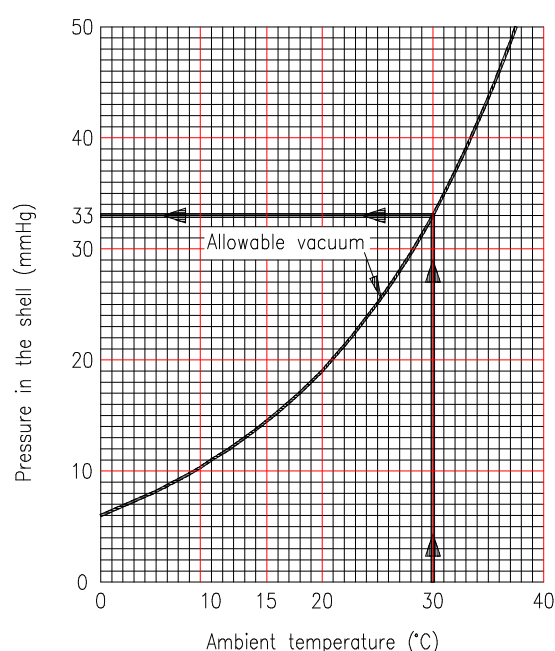

Fig.4-1
- ① The vacuum pressure has to be lower than the allowable vacuum value.
- ② As the pressure in the Machine is variable owing to the ambient temp., evaluate the measured pressure by using the curve. (Fig. 4-1)